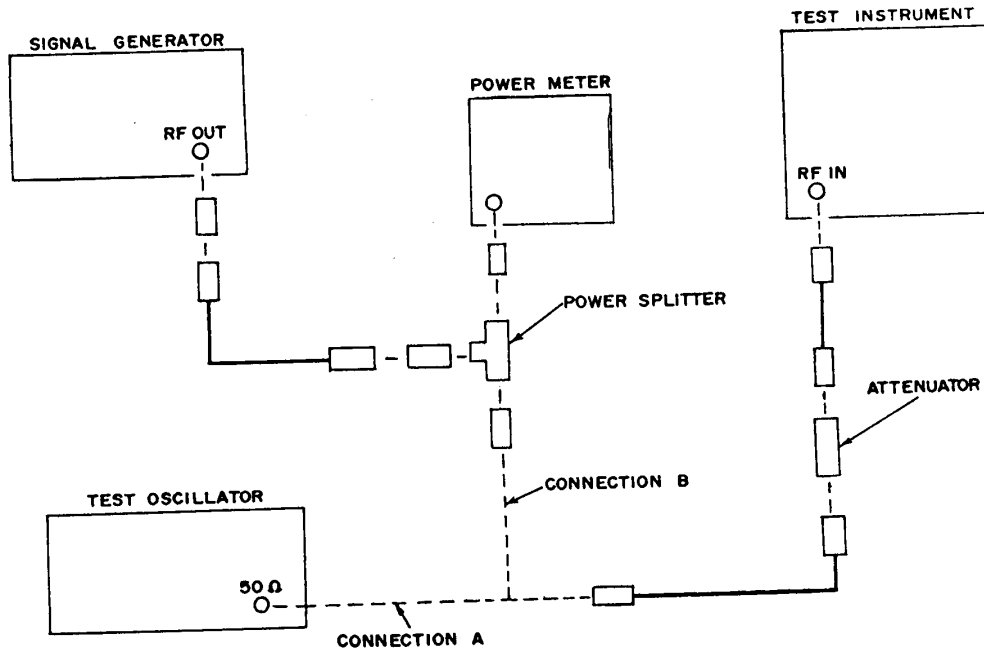

Figure 1. Voltage and attenuation - equipment setup.
(1) Connect equipment as shown in figure 1, connection A.
(10) Connect equipment as shown in figure 1, connection B.
(11) Set attenuator to **80 dB**.
(12) Set band switch to position **9** and adjust **TUNING** controls for a 10-MHz indication on **FREQUENCY** dial.
(13) Repeat (3) and (4) above.
(14) Adjust signal generator frequency to 10 MHz and output for an upper-scale indication on TI meter. Fine tune signal generator for peak indication.
(15) Adjust signal generator output for a 0-dB indication on TI meter. Add power meter indication to test report value of attenuator. Computed result will be between -85.5 and -88.5 dB.
(16) Repeat (12) through (15) above for band switch position 10 and a frequency of 25 MHz:
(17) Set attenuator to **60 dB**. Repeat technique of (12) through (15) above. Set band switch positions, **FREQUENCY** dial indications, and signal generator frequencies listed in table 4 Computed results will be between -65.5 and -68.5 dB.
(2) Position controls as listed in (a) through (d) below:
- (10) Set **BAND** switch to position 8 and **TUNING** control for a 4-MHz indication on **FREQUENCY** dial. Set **ATTENUATOR** switch to **CAL (20/40)**.
- (11) Repeat (3) through (9) above with test oscillator frequency adjusted to 4 MHz.
- (12) Connect equipment as shown in figure 1, connection B.
- (13) Position controls as listed in (a) and (b) below: